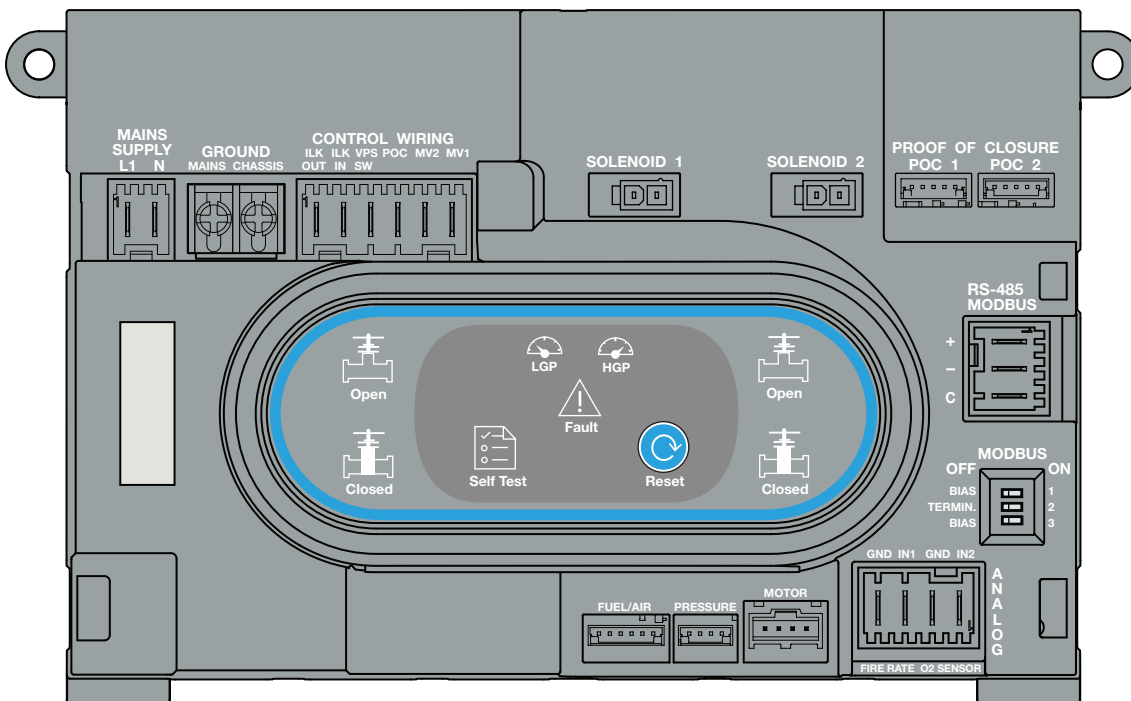

Fig. 2. NEMA 4 / IP66 STANDARD (6) or ENHANCED (7) electronics interface.
- i. SOLENOID 1/2 and POC 1/2 markings on the electrical assembly. Refer to Fig. 2.
4. Disconnect all applicable connectors from their sockets inside the main valve electrical enclosure. Refer to Fig. 2.